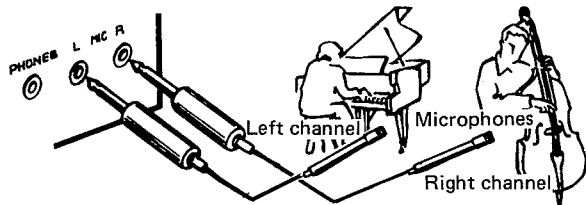

Fig. 5
As shown in Fig. 5, use a stereo microphone or two identical microphones and connect the one for the left channel to the MIC L jack and the one for the right channel to the R MIC jack. For the actual recording, refer to page 14 and "Recording."
1. As shown in Fig. 5, connect the microphones to the MIC jacks, and connect the program source, such as the turntable, through the receiver to the CT-F1250's INPUT (REC 1, 2) terminals.